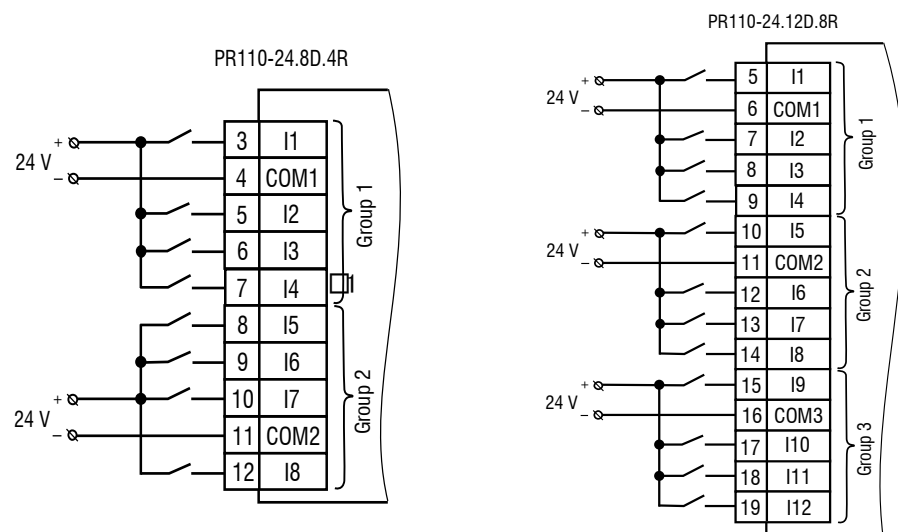

Fig. 5.3 Connection of switch contacts
- Electrical connections for inputs and outputs are shown in Figures 5.3 – 5.5.